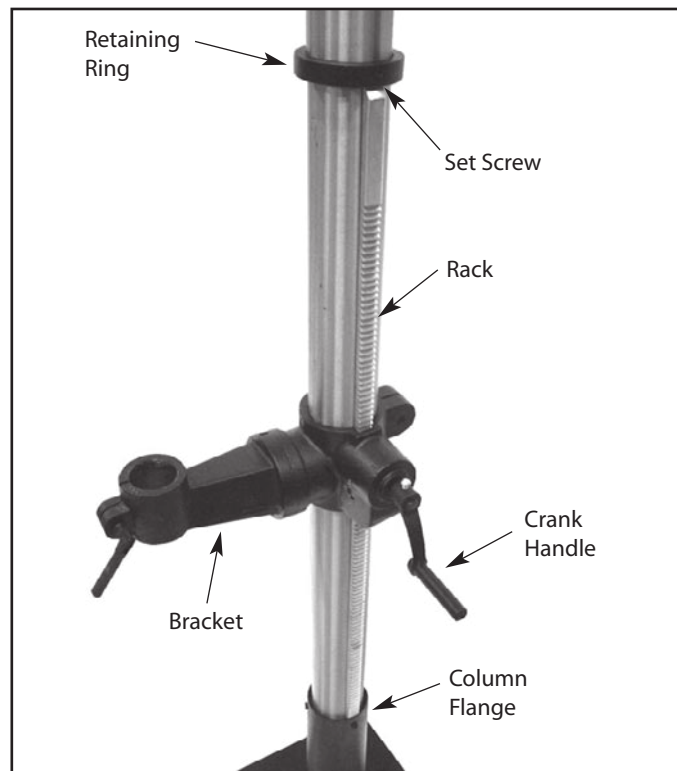

Figure 7 – Attach Bracket, Rack, Retaining Ring and Crank Handle
Refer to Figures 7 and 8.
- Slide table bracket assembly with rack over column. Place bottom end of rack inside beveled edge of column flange. See Figure 7.